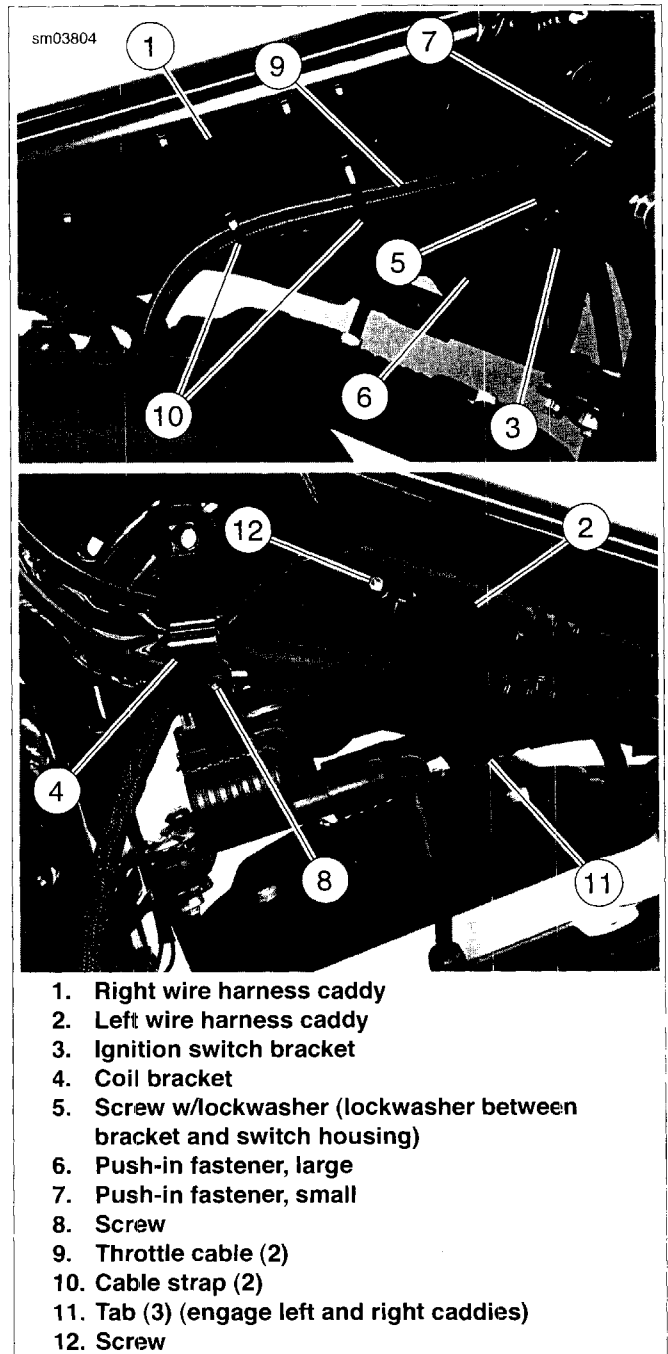
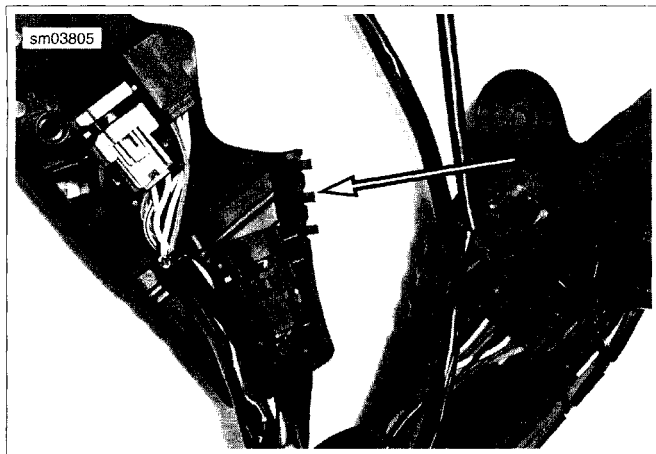

Figure 6-100. Wire Harness Caddy Assembly
Figure 6-101. Wire Harness Caddy: Locking Tabs
See Figure 6-100. The wire harness caddy assembly (1, 2) is secured to the ignition switch bracket (3) with two push-in fasteners (6, 7), and to the frame with mounting tabs hooked onto a bracket under the frame backbone tube. The left and right wire harness caddies are locked together with three tabs (see Figure 6-101) and secured with a screw (item 12, Figure 6-100).
6. See Figure 6-100. Remove screw (8) and disengage coil bracket (4) from mounting boss on frame.
10. See Figure 6-100. Remove screw (12) and carefully disengage left wire harness caddy (2) from right wire harness caddy (1).
11. Cut two cable straps (10) securing throttle cables (9) to right wire harness caddy.
14. See Figure 6-100. Remove and discard push-in fasteners (6, 7). Unhook right wire harness caddy from frame backbone bracket. Lower ignition switch bracket (3) from mounting bosses on frame to free right wire harness caddy.
- Mount front turn signals connector [31A] (6) onto mounting tab on right wire harness caddy.
- See Figure 6-100. Place throttle cables (9) in groove in right wire harness caddy (1).
- Mount handlebar control connectors [22A], [24A] (5, 3) to left wire harness caddy (1) with cable straps. Mount headlamp connector [38A] (4) onto tab on left wire harness caddy.
- See Figure 6-100. Hook right wire harness caddy (1) into bracket on frame backbone. Secure front of caddy onto ignition switch bracket mounting boss on right side of frame. Raise ignition switch bracket (3) up into position and mount it onto boss on frame.
- Route rear spark plug cable (3) from ignition coil (1) tower down through notch (4) in right wire harness caddy.
- a. Instruments connector [20A] (7).
- b. Front turn signal connector [31B] (6).
- c. Right hand control connector (black) [22B] (5).
- d. Left hand control connector (gray) [24B] (3).
- e. Headlamp connector [38B] (4).
16. See Figure 6-100. Mate left wire harness caddy (2) to right wire harness caddy (1). Secure with screw (12) and tighten.